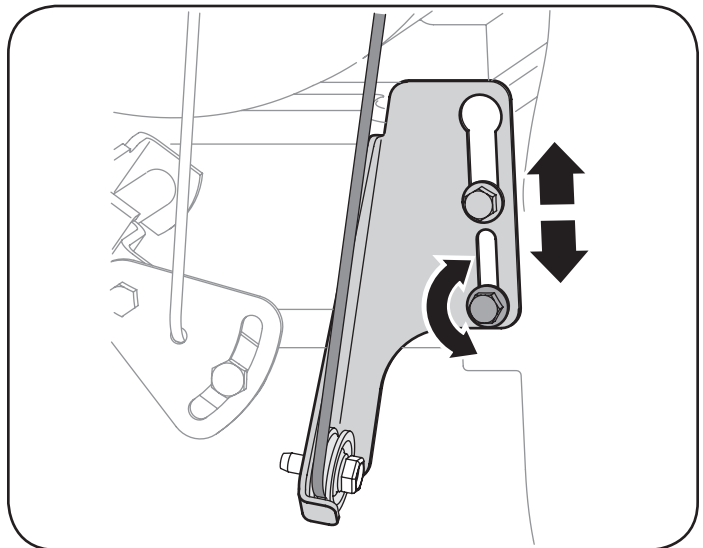

Figure 18
5. Loosen the lower hex nut on the drive cable bracket. See Figure 18.